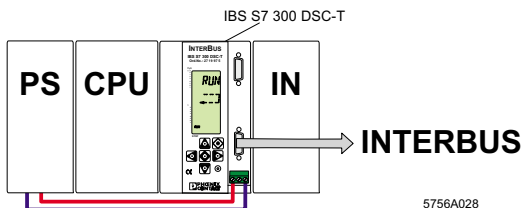

Figure 28 Example of a PLC configuration
6. Load the hardware configuration for the example (see Figure 28 on page 35) as described in "Integration of the Controller Board in STEP 7[®]" on page 19 into the PLC.